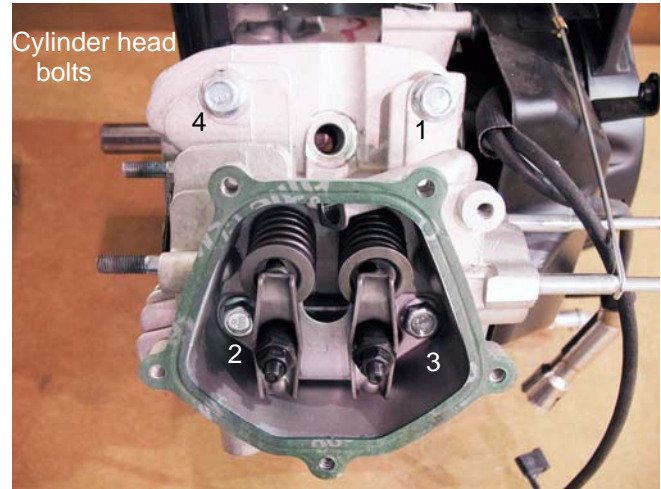

Figure 9.5
13. Remove the cylinder head bolts using a 12mm wrench. See Figure 9.5.